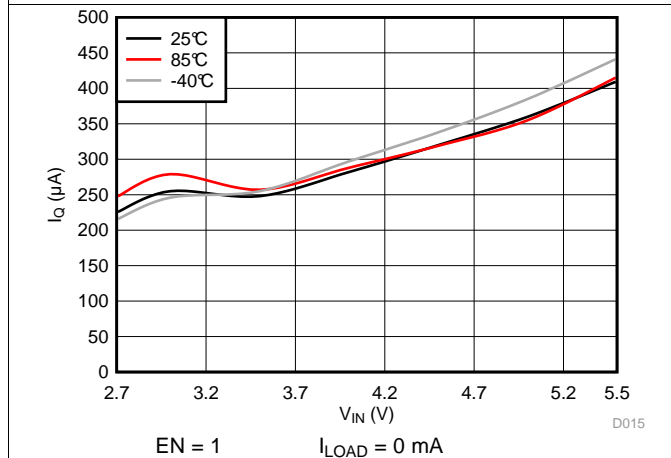

Figure 3. Quiescent Current
• Changed Figures 3 and 4; added Figures 16 through 18 .....	8